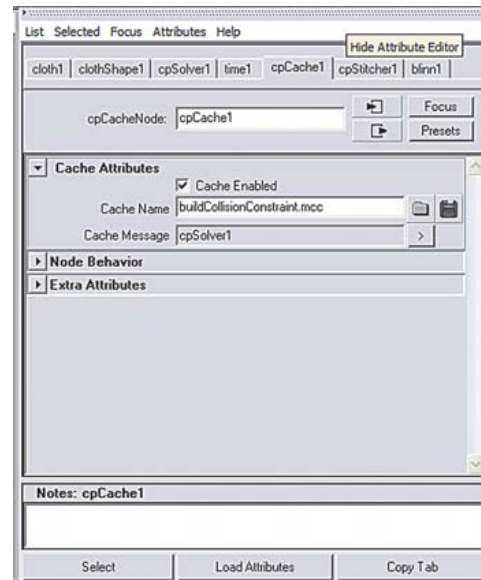

Figure 1.35: The cpCache node
2. Set the cache name and click the disk icon to save (see Figure 1.35).
Maya automatically loads the cache listed in the cpCache node when the scene is opened. You can also load an alternate cache file through the cpCache node by clicking the folder icon shown in Figure 1.35.